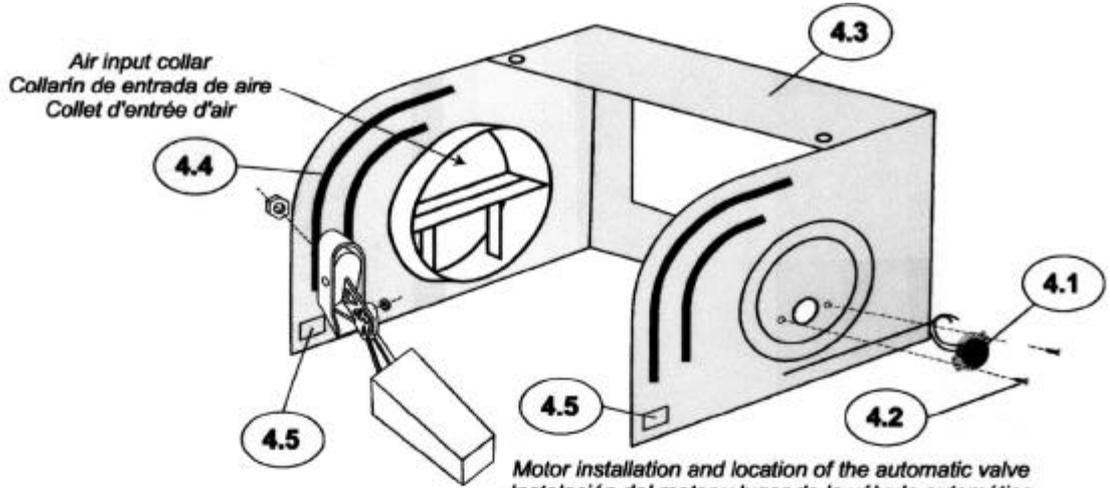

**Fig.2** General view
- The humidistat should be installed on a flat and vertical surface of the RETURN duct at 6 inches minimum from the humidifier top (**Fig. 2**).